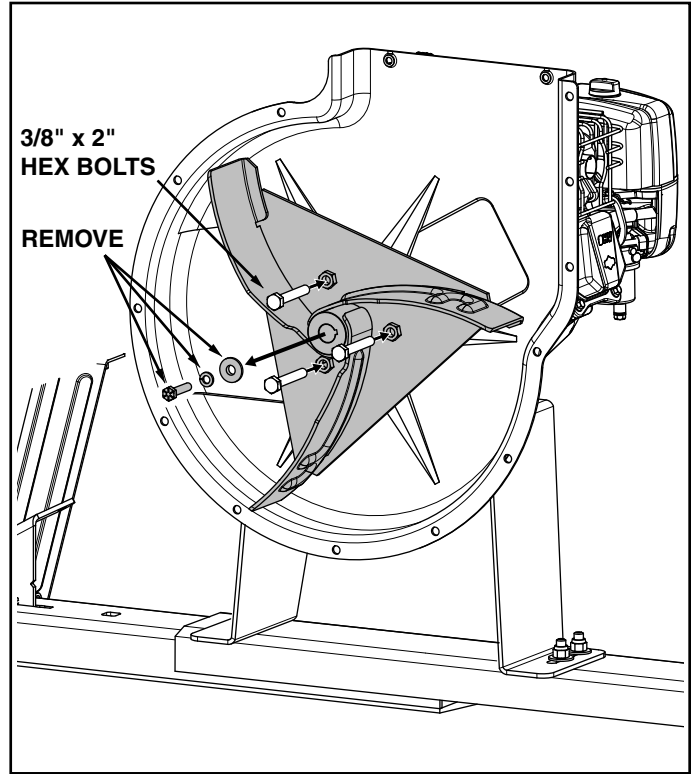

FIGURE 20
- Remove the bolt from the impeller hub. See figure 20.
- Screw three 3/8" x 2" full thread bolts (sold separately) into the three nuts welded to the impeller until they contact the housing behind the impeller. See figure 20.